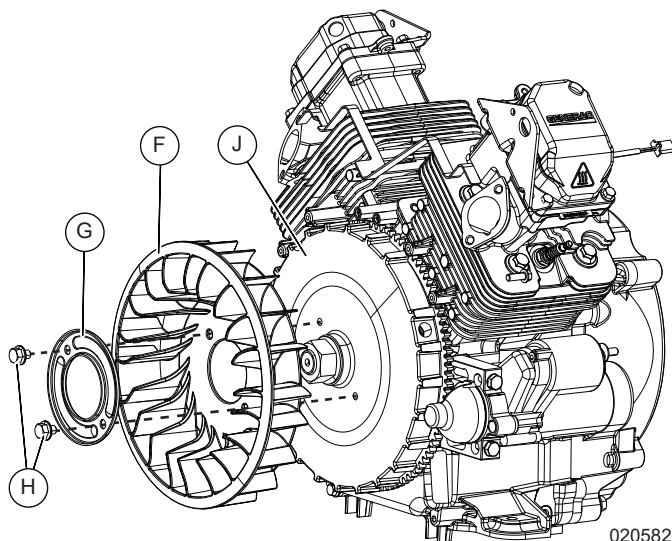

Figure 7-9. Install Flywheel Fan
6. See Figure 7-9. Install fan (F) and fan plate (G) to flywheel (J) using two fasteners (H).